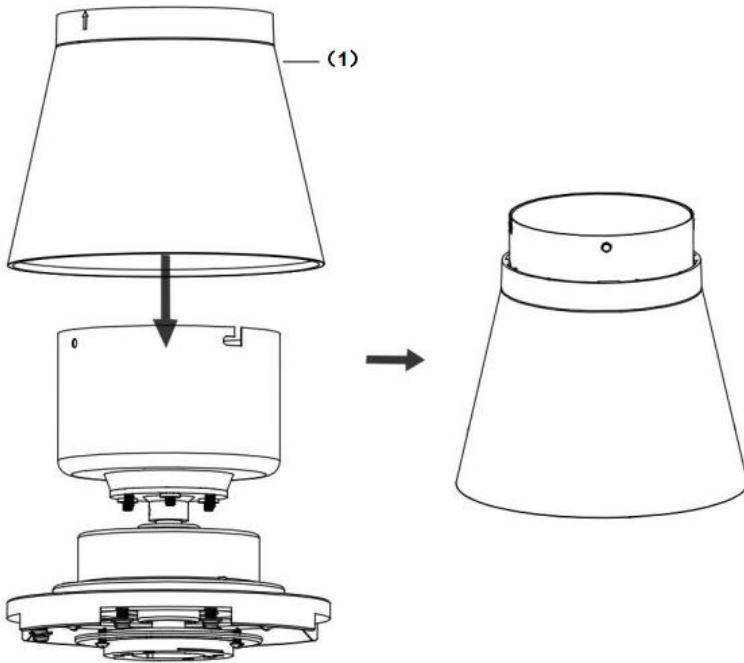

Fig. 3
- Install the motor housing (1) onto the motor assembly. (Fig.3)